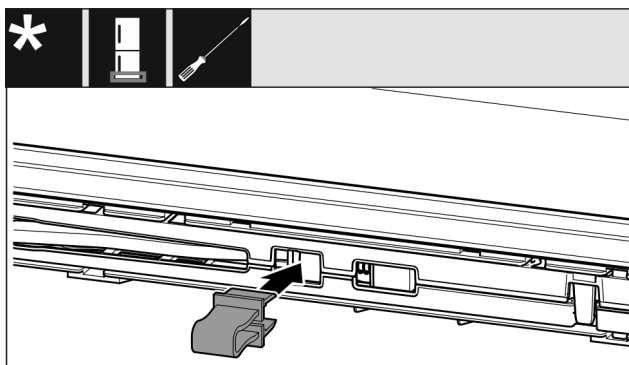

Fig. 14
- ▶ Borging in opening vergrendelen. Fig. 14 ()